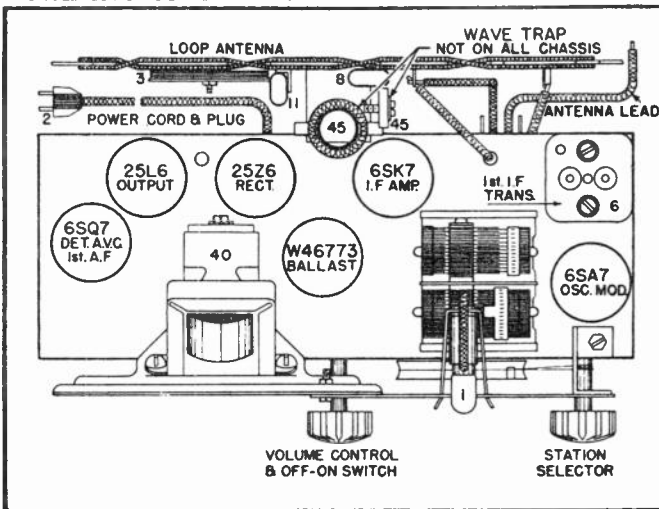

Fig. 2—Top View Model 15 or J-15
(d) Adjust the 2nd I-F trimmer condensers located through front chassis flange below the speaker (Fig. 2) for maximum reading on the output meter.
(e) Adjust the 1st I-F trimmer condensers, item 6, located on top of 1st I-F assy., (Fig. 2) for maximum output.
Some chassis of this model are equipped with a wave trap for the purpose of eliminating interference from code stations which operate on a frequency of approximately 455 kilocycles. This assembly is located on the loop mounting bracket (Fig. 2) and consists of a coil, and a trimmer condenser as illustrated by the dotted lines in the Wiring Diagram (item 45).